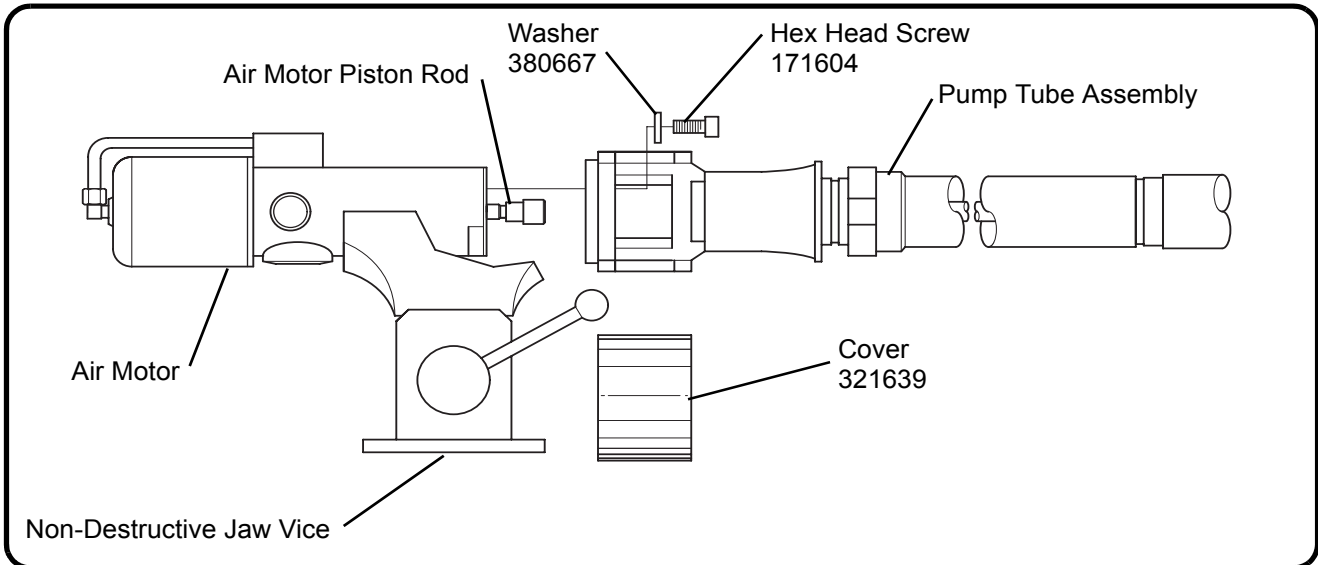

Figure 2: Removing Air Motor From Tube Rod Assembly
(See Figure 2)
1. Clamp the pump assembly into a nondestructive jaw vise (See Figure 2).